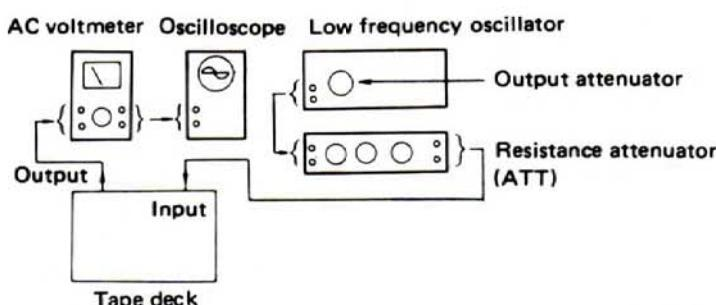

Fig. 19
* Unless otherwise specified, connect the measuring equipment to the tape deck as shown in Fig. 19.